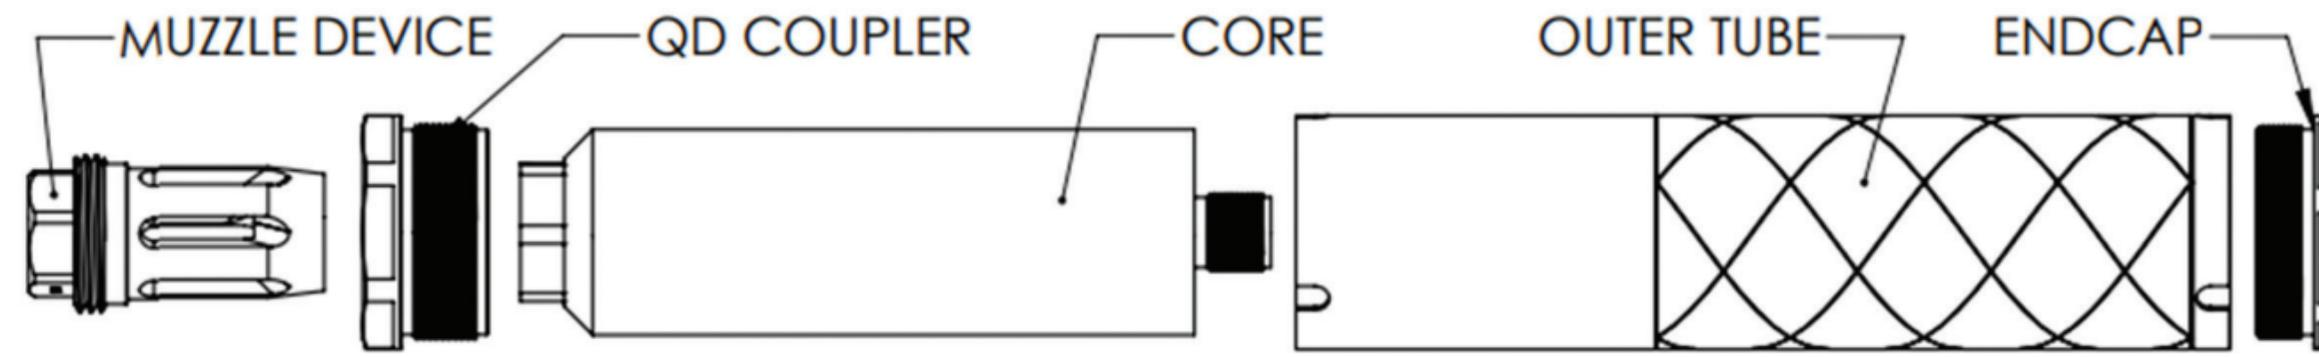

Fig. 1.
1. First remove the QD coupler (see Fig. 1) with a wrench by turning the coupler counterclockwise.
Refer to Fig. 1